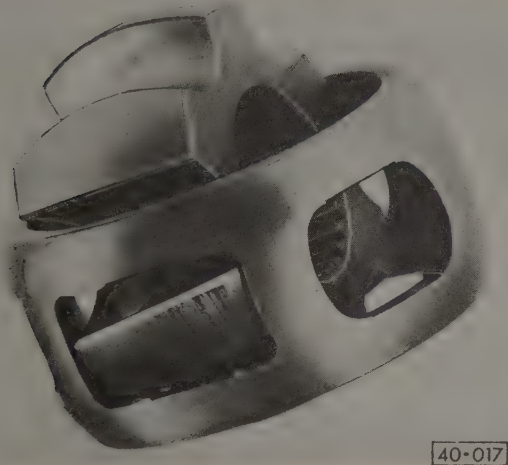

Fig. 5-14. Hub in position for removal or installation. Rectangular opening just accommodates spline of hub.
4. Remove the hub from the cage. Turn the hub so that one of the splines is in line with one of the large rectangular openings in the cage. See Fig. 5-14. The hub now has sufficient clearance to be tipped out of the ball cage.